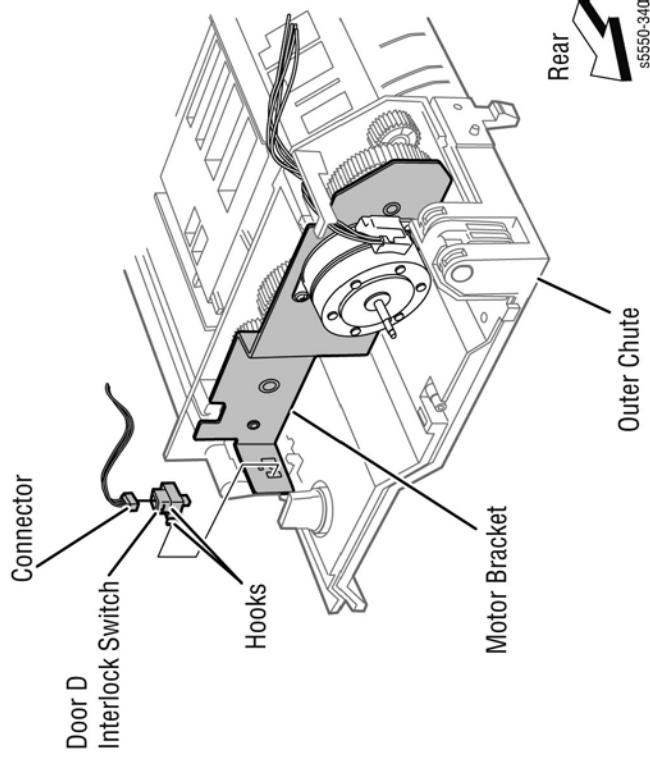

Figure 1 Removing the Door D Interlock Switch
3. Release the two hooks securing the switch to the bracket as shown in Figure 1.